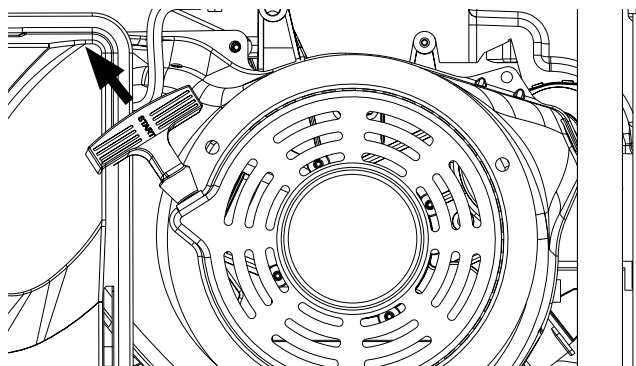

Figure 11 - Engine Recoil Handle - PULL
6. Firmly grasp and pull the recoil handle slowly until you feel increased resistance. At this point, apply a rapid pull while pulling up and slightly away from the generator (see Figure 11).